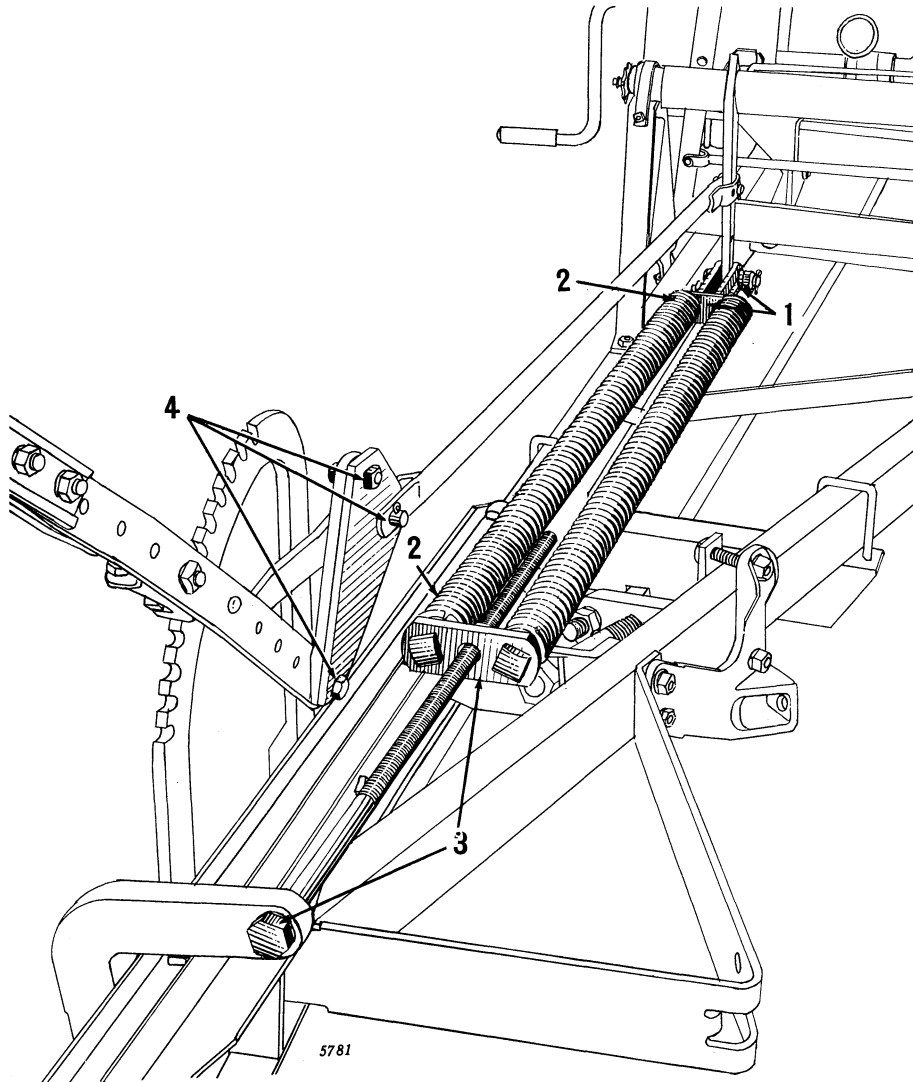

Figure 14
- (Machines Serial No. 12-33268 and up) See 1, Figure 14 for installation of new lifting spring.
- (Machines Serial No. 12-33268 and up) See 2, Figure 14 for installation of second lifting spring.
(Machines Serial No. 12-33268 and up) See 3, Figure 14 for installation of tension adjusting bolt. Adjust tension of platform lifting spring after instruction 22 has been carried out.
1. (Figure 14) Secure clevis to lifting crank with pin and cotter.
2. (Figure 14) Screw lifting springs onto clevis and secure to tie strap with cap screws. Be sure that tapped pipe which is welded to strap is to the rear.
3. (Figure 14) Screw spring tension adjusting bolt into tie strap.
4. (Figure 14) Bolt lifting lever extension plate to left-hand side of lifting lever as shown, replacing lower bolt with longer shoulder bolt furnished. Secure clevis at front end of lifting pipe to extension plate with pin and cotter.
- Remove blocking under platform and adjust tension of lifting spring with adjusting bolt "3," Figure 14, so platform will raise and lower easily.